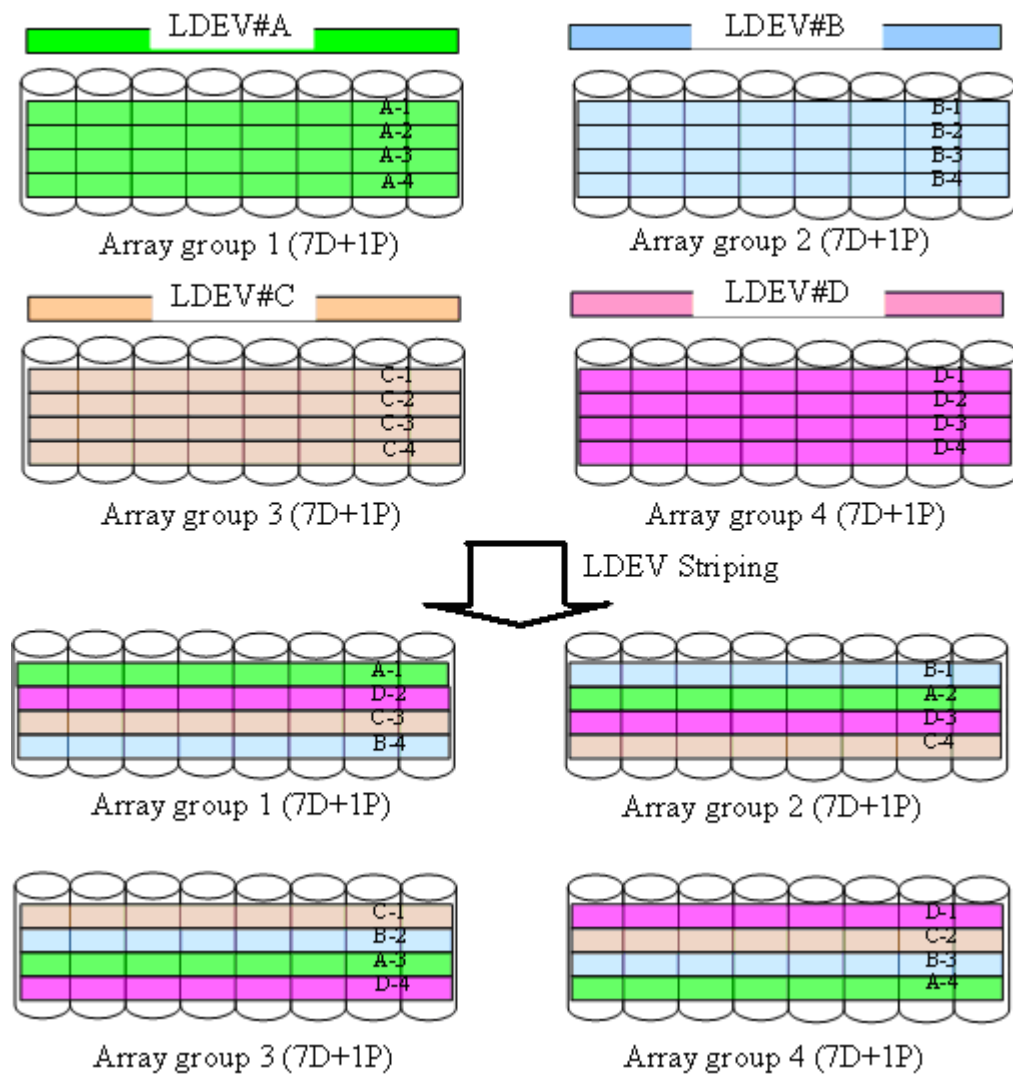

Figure 13 LDEV Striping Across 4 RAID5 (7D+1P) Array Groups
- LDEV striping across four RAID5 (7D+1P) array groups. The maximum number of LDEVs in this configuration is 2000. See Figure 13 LDEV Striping Across 4 RAID5 \(7D+1P\) Array Groups on page 57.